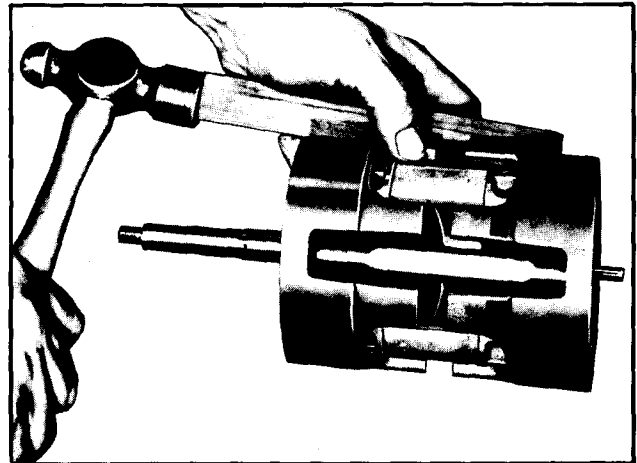

Figure 70—Separating Cylinder Halves
3. Separate cylinder halves, using a wood block and mallet (figure 70). Make certain that discharge cross-over tube does not contact axial plate when separating cylinder halves (a new Service discharge cross over tube will be installed later).